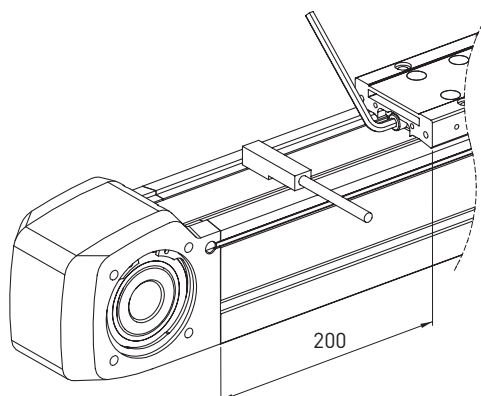

Fig. 8.13 Preloading the toothed belt
- ▶ Set the distance between the carriage edge and the edge of the drive block housing to 200 mm as shown in Fig. 8.13.